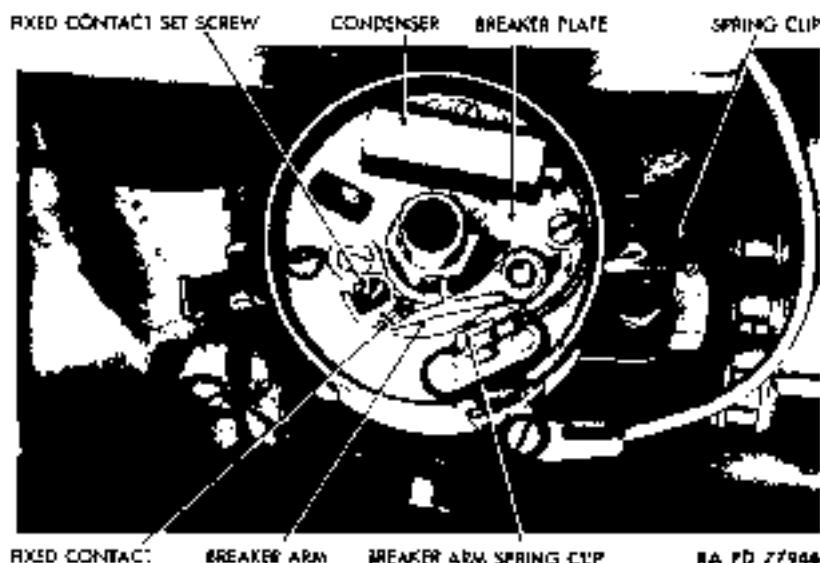

Figure 46 - Distributor With Cap and Rotor Removed
(1) **DESCRIPTION** (fig. 46). The automotive type distributor condenser is located on the distributor breaker plate, and can be reached through the splash shield opening under the left fender. The function of the condenser is to intensify the ignition spark.
(3) REMOVE CONDENSER FROM BREAKER PLATE (fig. 46). Remove screw and lock washer which attach condenser pig tail to breaker arm spring clip. Remove screw and lock washer which attach condenser to breaker plate, and lift condenser from distributor.
(1) INSTALL CONDENSER IN DISTRIBUTOR (fig. 46). Position condenser on distributor breaker plate. Install lock washer and screw which attach condenser to breaker plate. Connect condenser screw to breaker arm spring clip with lock washer and screw provided for the purpose. Place distributor cap in position on distributor, and engage both spring clips.
(2) TEST INSTALLATION. Start engine, and test operation.
(2) **CHECK AND ADJUST BREAKER POINT GAP** (fig. 46). Unsnap both spring clips, and lift cap and rotor from distributor. Rotate engine with hand crank until points are opened to widest gap, and measure gap. Correct measurement of gap is 0.020 inch. If it deviates by more than 0.002 inch from 0.020 inch, loosen fixed contact set screw, and move fixed contact until gap measures 0.020 inch. Tighten set screw, check breaker arm spring tension, and adjust if necessary (step (3) below). Install rotor and distributor cap.
(3) **CHECK AND ADJUST BREAKER ARM SPRING TENSION** (fig. 46). Hook a scale spring on breaker arm at contact, and hold scale at right angles to surfaces of contacts. Pull contacts apart, and observe scale reading. If not within the limits of 17 to 20 ounces, loosen screw which anchors breaker arm spring clip, and slide spring out or in to decrease or increase tension. Tighten screw and again check tension, repeating process until test shows 17 to 20 ounces of tension.
(4) **REPLACE BREAKER POINTS** (fig. 46). Unsnap spring clips, and lift cap and rotor from distributor. Remove breaker arm and condenser wire screw, and lift breaker arm from pivot. Remove fixed contact set screw, and lift out contact plate. Place new contact plate in position, and install fixed contact set screw fingertight. Place breaker arm in position on pivot. Install breaker arm and condenser wire screw. Adjust breaker arm spring tension, and adjust breaker point gap. Install rotor and distributor cap.